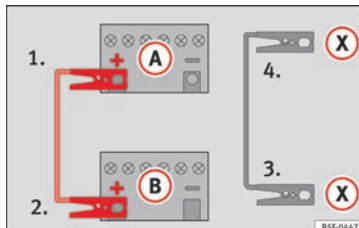

Fig. 88 Diagram of connections for vehicles with Start-Stop system.
– For vehicles with Start-Stop system: connect one end of the **black** jump lead **(X)** to a suitable ground terminal, to a solid piece of metal in the engine block, or to the engine block itself » **Fig. 88**.